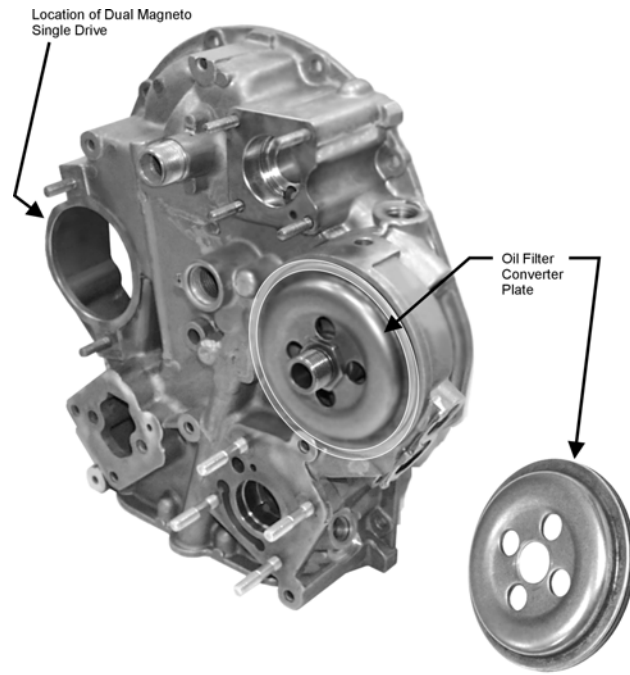

Figure 1. Dual Magneto and Oil Filter Converter Plate
2. Remove the oil filter and converter plate. Refer to Figure 1.